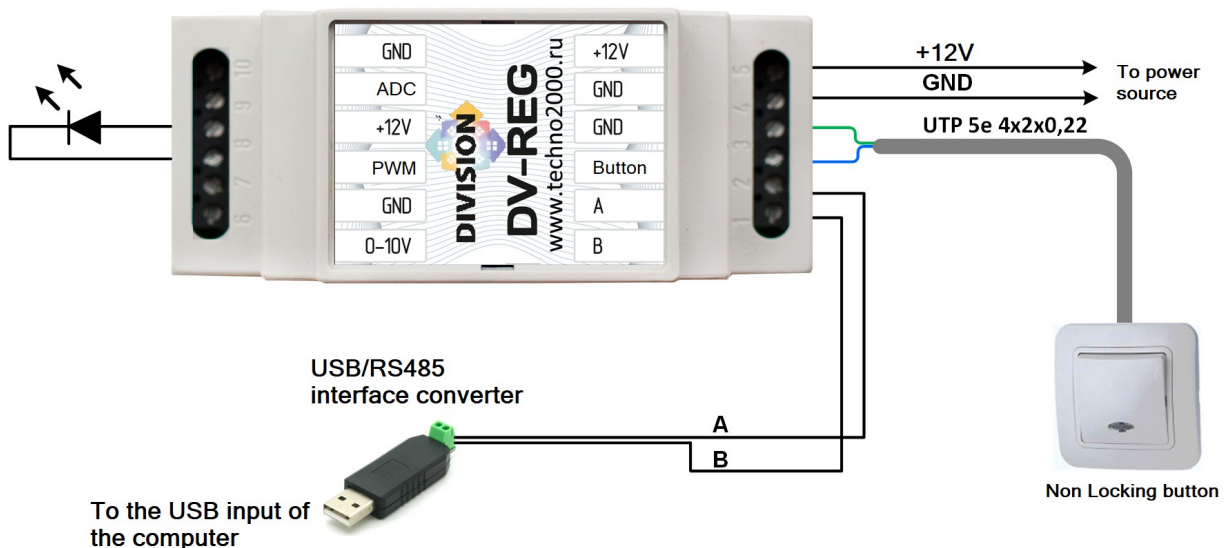

Fig.5. Connection diagram DV-REG to the computer's USB input for test trials
In testing mode, the module is connected to a personal computer, load and power supply according to the diagram in Figure 5. In the address setting mode, there is no need to connect the control button.
1. Connect the device to the computer according to the diagram in the figure 5.